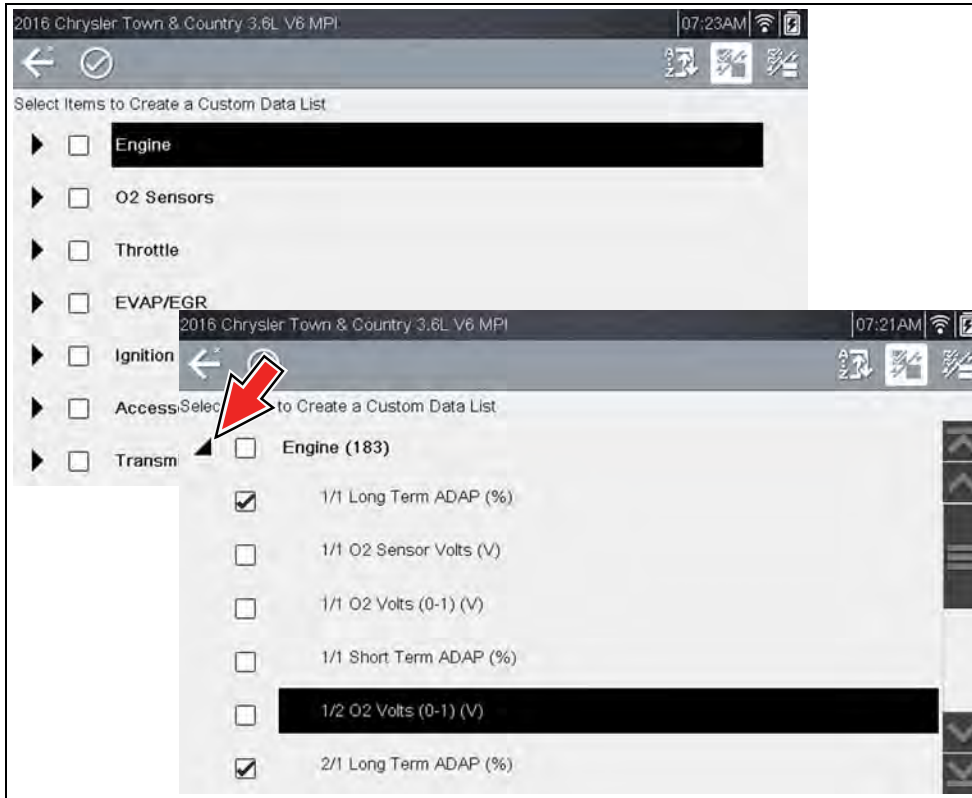

Figure 5-19
2. The data selection screen displays (*Figure 5-19*). Each list item is expandable, by selecting its Expand icon (*Figure 5-19*). You can expand any item from the list and select which PIDs you want to include, and then collapse the list and choose another if desired. The check marks to the left of the parameter description indicate which parameters are selected for display.